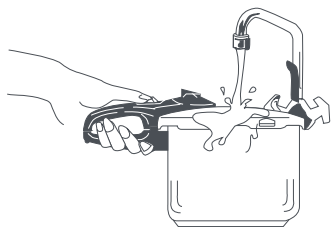

Fig. 14
This method is used when the pressure needs to be released as soon as possible, mainly when preparing vegetables, seafood or other delicate foods that are easily overcooked. This is done by taking the pot to the sink and letting cold tap water run over the lid (1) until the steam disappears and the pressure sensor (2) drops. You can then open the pressure cooker safely. When you place the pot in the sink, tilt it so that the cold water runs down the sides away from the lid handle (5) and the safety systems (Fig. 14).